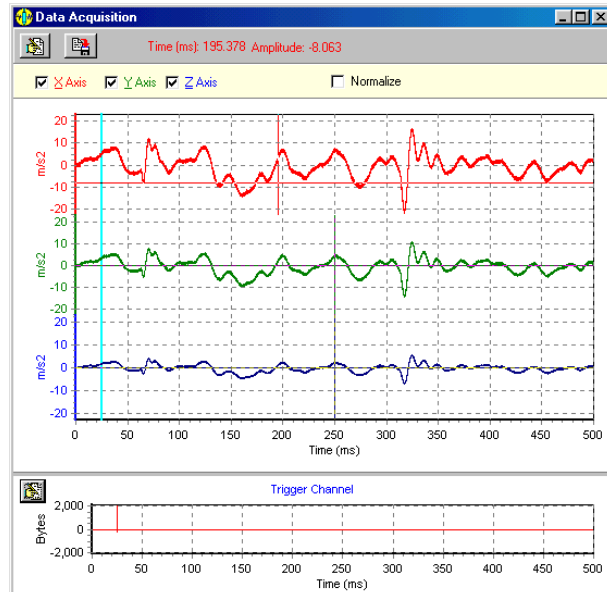
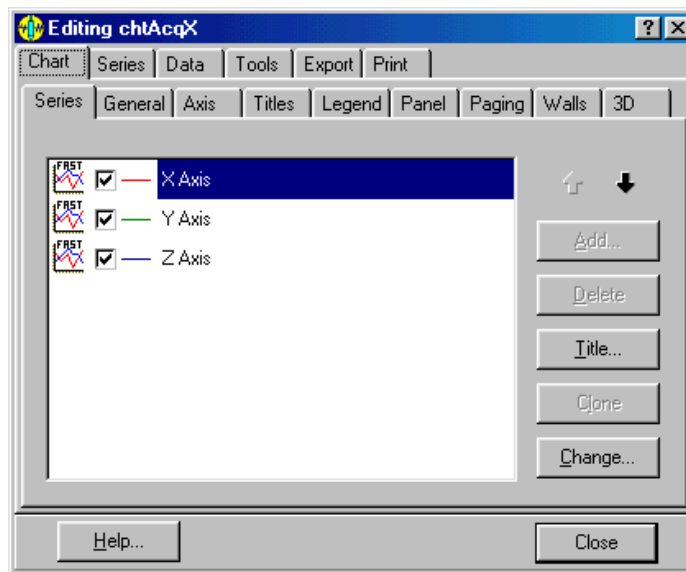
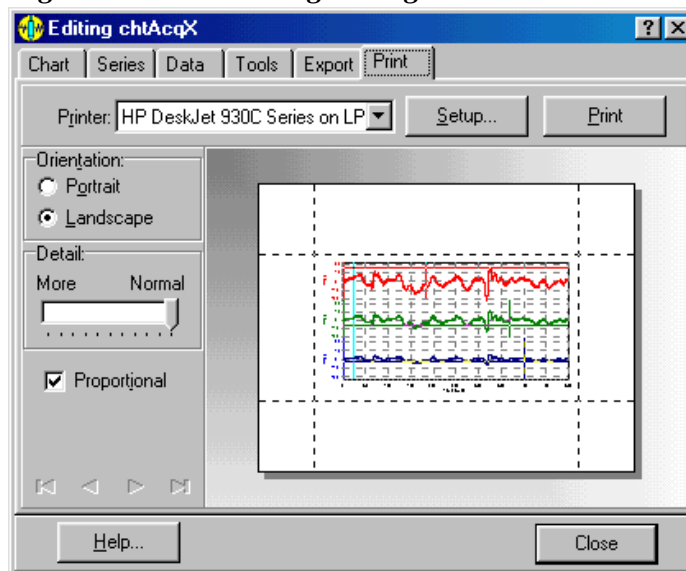

Figure 6: Seismic Data Display Screen
Figure 8: Chart Editing Dialog Box
Figure 9: Chart Printing Dialog Box
- **Begin Acquisition** - the *Begin Acquisition* option is chosen once the data acquisition parameters have been specified. *SC3-DAC™* stores the current data acquisition parameters in the *SC3dac.ini* file and these values become the default parameters. As soon as the trigger has been set off, the *Data Acquisition* window as shown in Figure 6 opens to display the captured seismic data.
The top chart of the screen contains the acquired seismic time. The vertical light blue line shown in Figure 6 on the left of the screen signifies the trigger time. The red, green, blue are the Crosshair and the coordinates of the intersection in the active area are shown at the top of the screen.
The trigger channel is displayed in the bottom chart of the screen, and it contains both pre trigger and post trigger information. The vertical red line shown in Figure 6 on the left of the screen signifies the trigger time.
The graphical edit button  displayed at the top left hand corner of the *Seismic Data Display Screen* shown in figure 6 allows for chart formatting, printing, and exporting. Figure 8 illustrates the graphical interface that appears when this button is selected, which allows for extensive modification of the displayed data and chart attributes. In addition the data can be printed by selecting the *Print* tab, which brings up the *Chart Printing Dialogue Box* as shown in Figure 9. Finally, this utility has an extensive electronic Help function, which is accessed through the *Help* button at the bottom left of the screen.